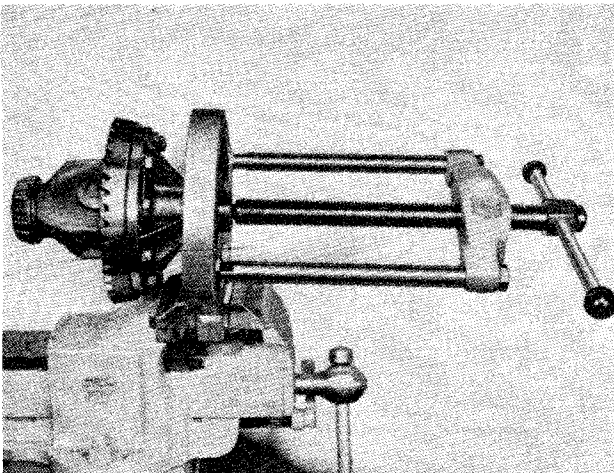

Fig. 31 Removal of the differential bearing utilizing the Churchill Tool No. S103 and S4221 frame.
- (xxi) Having decided the thickness of shims required behind each differential bearing, these bearings are extracted with the special tool shown in Fig. 31. The